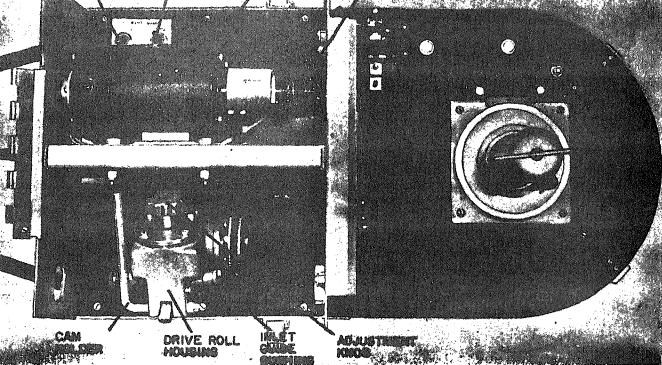

Figure 4. Wire Feeder, Inside View
- c. Hold cam handle (Fig. 4) depressed to raise conical drive roll in upper roll shaft.
- e. Insert inlet guide bushing into drive roll housing (Fig. 4).
h. Back off adjustment knob on drive roll housing (Fig. 4) a few turns counterclockwise.